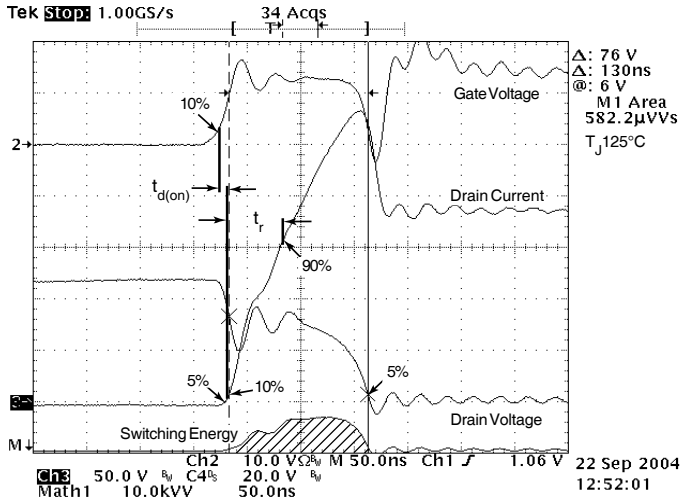

Figure 18, Turn-on Switching Waveforms and Definitions
① Repetitive Rating: Pulse width limited by maximum junction temperature
② Pulse Test: Pulse width < 380  $\mu s$ , Duty Cycle < 2%
③ See MIL-STD-750 Method 3471
④ Starting  $T_j = +25^\circ C$ ,  $L = 0.470mH$ ,  $R_G = 25\Omega$ , Peak  $I_L = 74A$
⑤  $dv/dt$  numbers reflect the limitations of the test circuit rather than the device itself.  $I_S \leq -I_D 74A$   $di/dt \leq 700A/\mu s$   $V_R \leq V_{DSS}$   $T_j \leq 150^\circ C$
⑥  $E_{on}$  includes diode reverse recovery. See figures 18, 20.